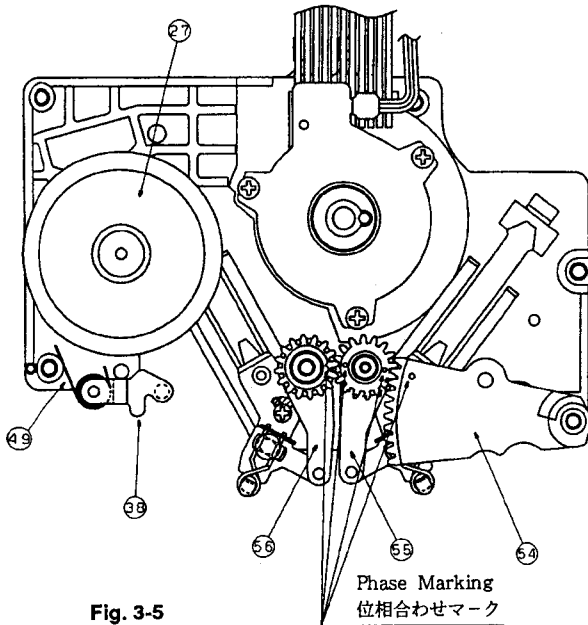

Fig. 3-5
- 1) ③c ワッシャを外し、⑬⑦ Loading Lever Blockを外す。
- See that the phases of the Gear Arm, L1 (IN) Arm, and L1 (OUT) Arm are matched with each other, as shown in Fig. 3-5.
- Gear Arm, L1 (IN) Arm, L1 (OUT) Armの位相は Fig. 3-5を参照。